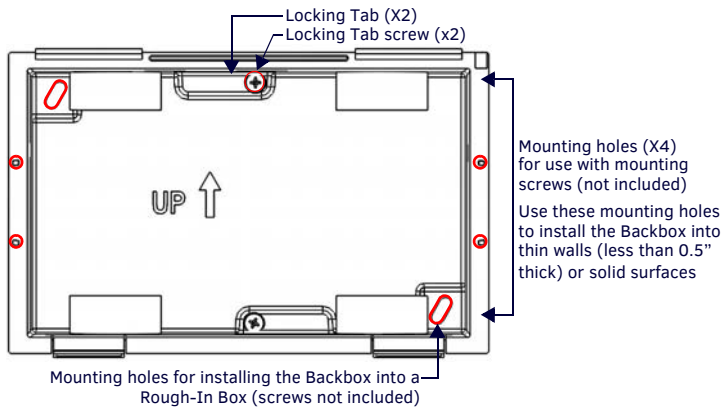

FIG. 2 7" MODERO S BACKBOX (FRONT VIEW)
The MSD-701-L comes with a clear plastic Backbox (FIG. 2). This Backbox can be used to mount the touch panel into most standard wall materials. The Backbox can also be used to mount the panel into other mounting options.
- To ensure a stable installation, the thickness of the wall material must be a minimum of .50 inches (1.27cm) and a maximum of .875 inches (2.22cm). The mounting surface should also be smooth and flat. For thin walls or solid surfaces, use mounting screws (not included) - see FIG. 2.